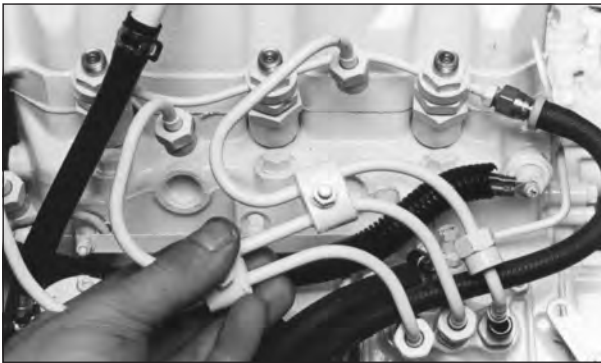

Figure 13: Remove delivery lines.
- c. Remove delivery lines by disconnecting from injectors and injection pump (Figure 13). Remove all lines as an assembly; do not remove the spacers. Cover the ends of the lines, the injector inlets and injection pump outlets to keep dirt out.